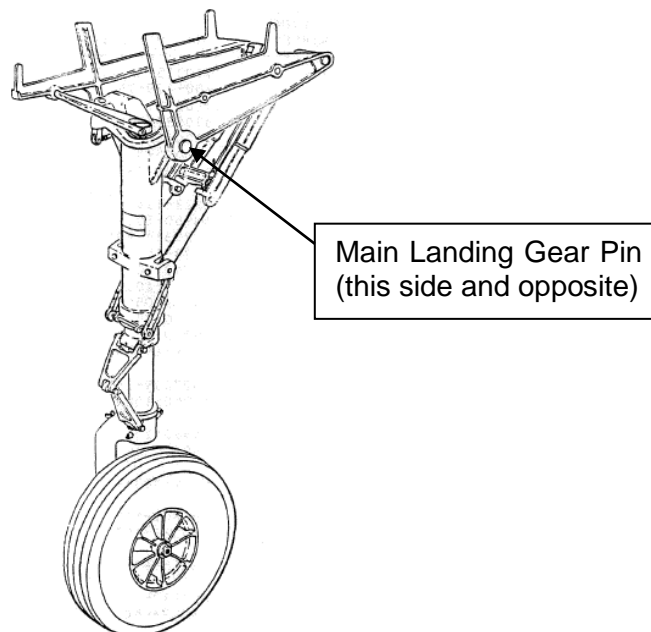

Figure 1
1. Perform an inspection of the Outboard MLG Pins, on the LH and RH sides of the aircraft. See **Figure 1**.